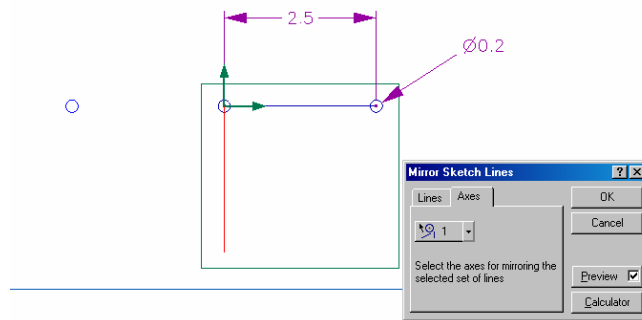

Figure 5. Duplicating the left hole.
9. With the right hole selected, select Line then Mirror from the drop down menu. Select the Axis tab (it will have 0 in it) then double click the vertical line (in red) shown in figure 5. If the preview box is checked you will see the hole at the left. Click OK to execute the command.